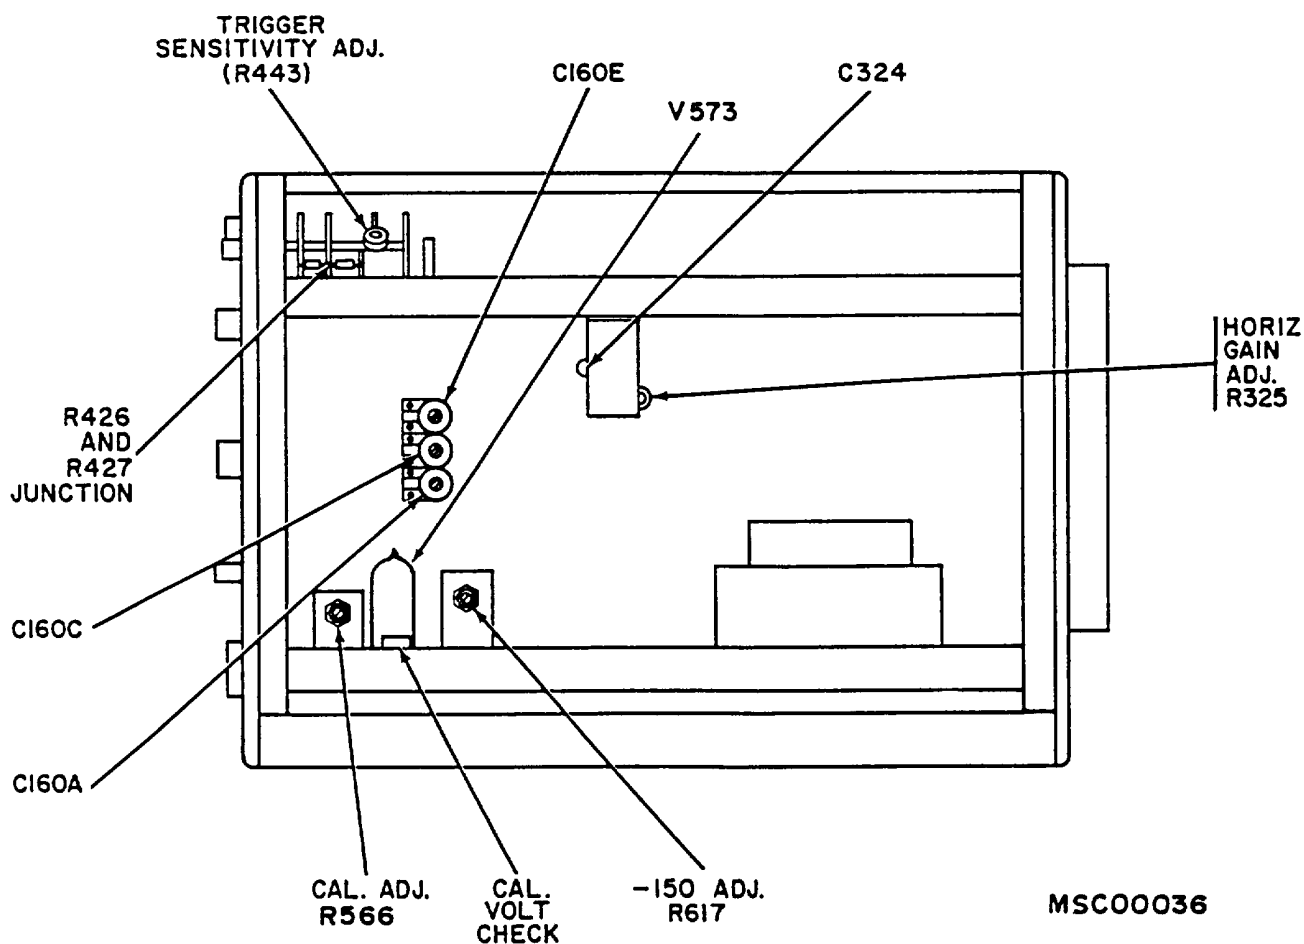

Figure 4. Oscilloscope - right-side view (type 317).
(1) Turn TI POWER switch to off (down position) and remove V875 (fig. 3), or for TI's with SIN 280 and above V883 (fig. 3) (V573, fig. 4).
(2) Turn TI POWER switch to ON.
(3) Connect ac/dc voltmeter (A2) between TI CAL OUT connector and chassis ground, using leads supplied with ac/dc voltmeter and, if necessary, adapter (B1).
(4) Turn TI VOLTS PEAK-TO-PEAK switch to 100. If ac/dc voltmeter does not indicate between 97 and 103 volts dc, perform b below.
(5) Repeat technique of (4) above for settings and indications listed in table 4. Ac/dc voltmeter will indicate within limits specified.
(6) Turn TI POWER switch to off (down) and replace vacuum tube removed in (1) above.
(7) Turn TI POWER switch to ON and VOLTS PEAK-TO-PEAK switch to OFF.
b. Adjustments. Adjust CAL ADJ R879 (fig. 3) (CAL. ADJ. R566, fig. 4) for a 100-volt de indication on ac/dc voltmeter (R).
(3) Connect junction of R26, R27, R28, and C25 (fig. 1) (or R426 and R427, fig. 4) to chassis ground, using probe (B9).
(4) Adjust VOLTS/DIV VARIABLE control for 1 minor division of vertical deflection on TI crt.
(5) Position crt trace on horizontal graticule center line.
(6) Alternately switch TI TRIGGER SELECTOR (black) control back and forth from +INT to -INT. If sweep does not have stable triggering in both +INT and -INT positions, perform 6(1) through (3) below.
(7) Remove short connected in (3) above.
(8) Turn TI TRIGGERING LEVEL control to position where stable triggering occurs in both +INT and -INT positions. If stable triggering does not occur when TRIGGERING LEVEL control is in 0 (zero) position, perform b(4) below.
(9) Turn TI TRIGGERING SELECTOR (red) switch to DC.
(10) It may be necessary to adjust TI VERTICAL POSITIONING control until sweep appears on crt.
(11) Adjust VOLTS/DIV VARIABLE control for 1.5 minor divisions of vertical display on TI crt. If crt display is not positioned at the center horizontal graticule line, while TI TRIGGER SELECTOR (black) switch is turned from +INT to -INT, perform b(5) below.
(12) Turn TI VOLTS PEAK-TO-PEAK switch to OFF.
(13) Remove lead (B7) or cable (B5) connected in (1) above.
(2) Reduce amplitude of crt display, using VOLTS/DIV VARIABLE control until display becomes unstable. Adjust R43 (fig. 1) on TI's with S/N 203 and above (TRIGGER SENSITIVITY ADJ. R443, fig. 4) until stable triggering is obtained in both +INT and -INT positions.
(3) Repeat (1) and (2) above until no further adjustments are required.
(4) Loosen setscrew on TRIGGERING LEVEL knob and adjust to 0 (zero) position without turning potentiometer shaft. Tighten setscrew.
(1) Adjust R325 (fig. 1) (HORIZ GAIN ADJ. R325, fig. 4) until one time marker per centimeter is displayed between second and 10th vertical graticule lines (R).